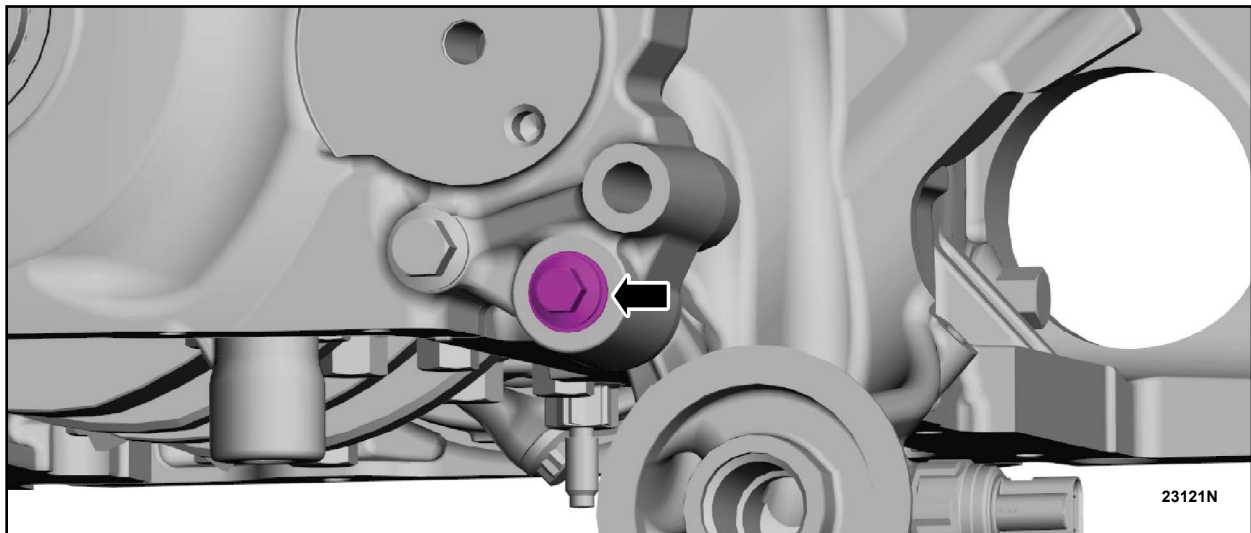

FIGURE 12
26. Remove the engine front cover-to-oil filter adapter bolt. See Figure 12.